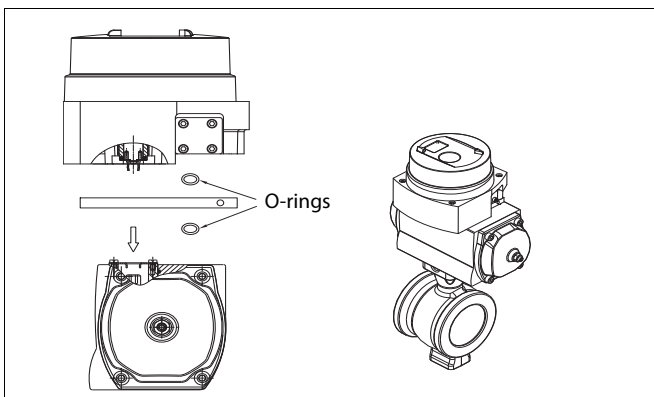

Fig. 4 Mounting on EC and EJ actuators, ND9200 and ND7200
- ❑ Mount the U-shaped coupling (47) to the shaft. Apply thread-locking compound to the screws (48) and tighten firmly.
- ❑ Remove the protective plastic plugs from pneumatic connections C2, S and C1. Mount the metal plugs (53) to the unused controller connections with sealant.
- For EJ (single acting, spring to close) and EJA (single acting, spring to open) actuators, leave the metal plug (54) in the C1 connection at the bottom of the controller and remove the metal plug from the C2 connection at the bottom.
- ❑ Mount the O-rings (38, 4 pcs.) into the air connections in the bottom of the controller and the mounting plate (64).
- ❑ Install the mounting plate (64) on the actuator as shown in 12.5.
- ❑ Place the valve controller on top of the actuator so that the pointer is located in the position shown in Fig. 4.
- ❑ Fasten the screws (4).